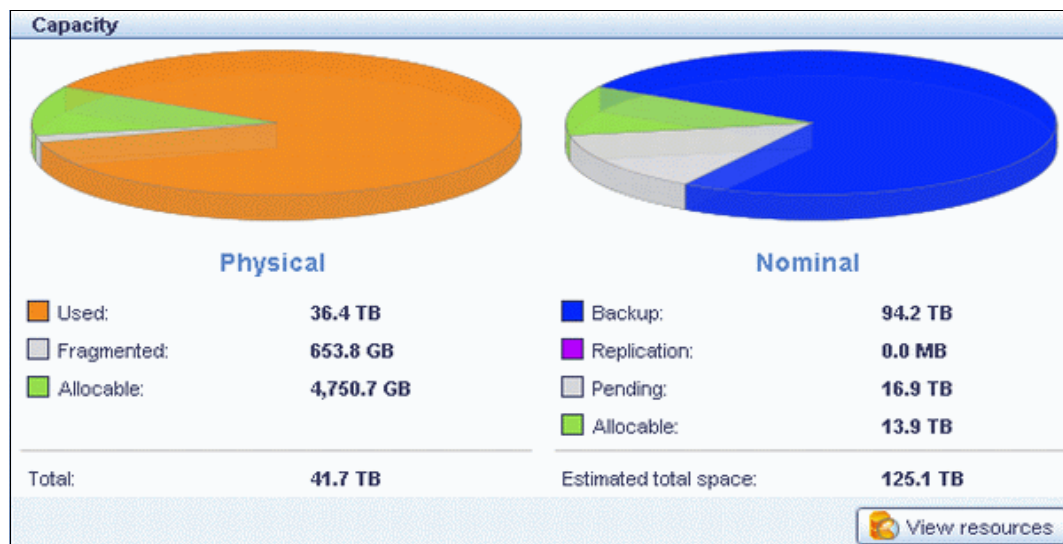

Figure 2-3 ProtecTIER repository with pending nominal space
In the Capacity section of the ProtecTIER GUI (Figure 2-3), the pie chart at the right side shows the nominal data, and you can see the pending space. In this example, the pending space is 16.9 terabytes (TB).
As a result of the delete operation, some fragmented space can occur, as shown in the pie chart on the left in Figure 2-3. Further ProtecTIER internal housekeeping eliminates that space. The newly reworked repository is perfectly aligned to your next incoming backup.